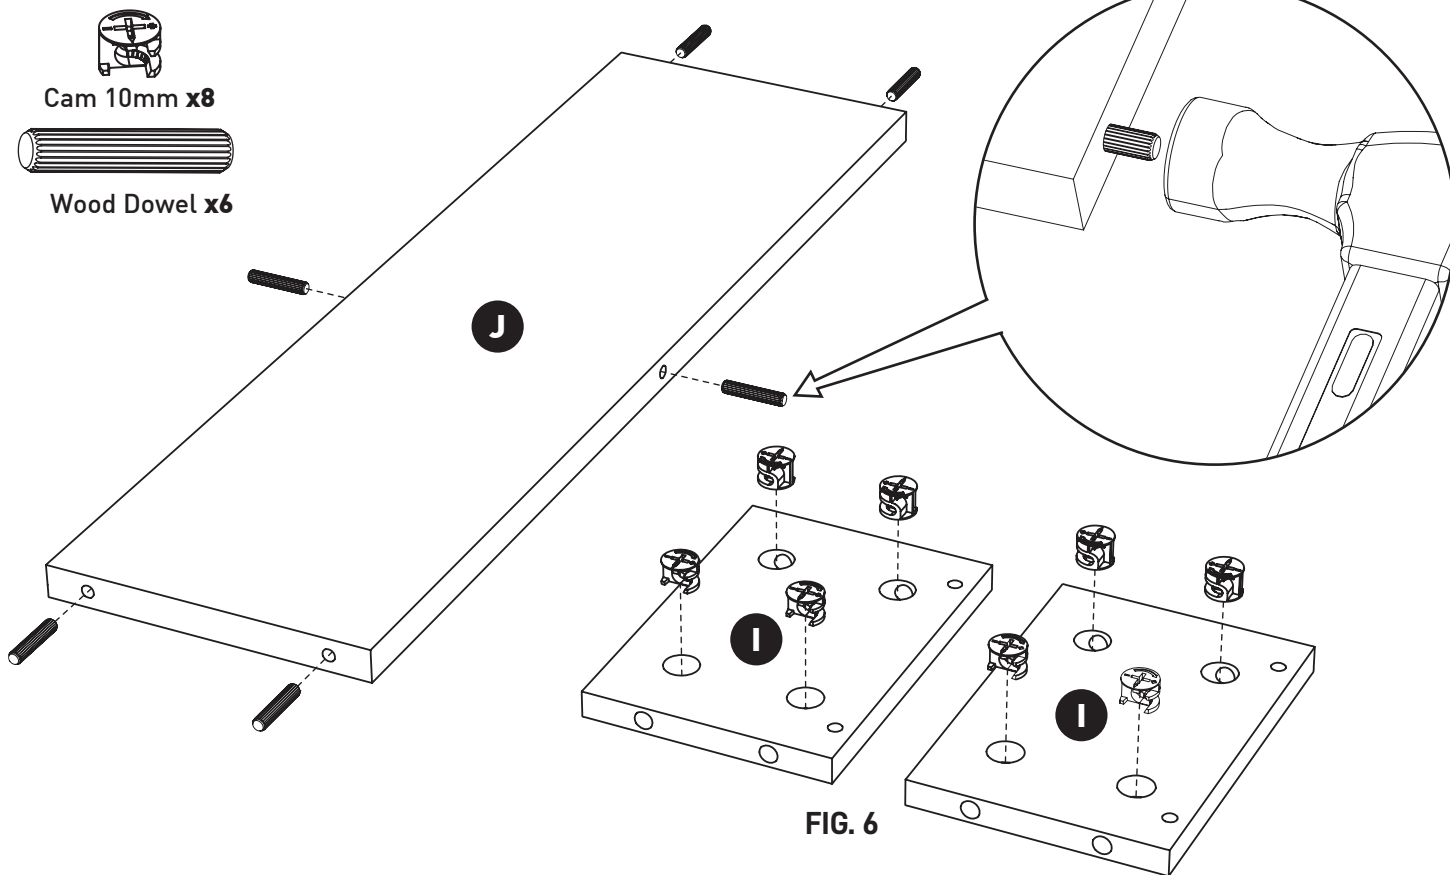

FIG. 6
Step 6. In each of the two Door Bin Sides (I) panels, install 10 mm cams (x8) with arrow on cam pointing to hole on outer edge as shown in FIG. 6.